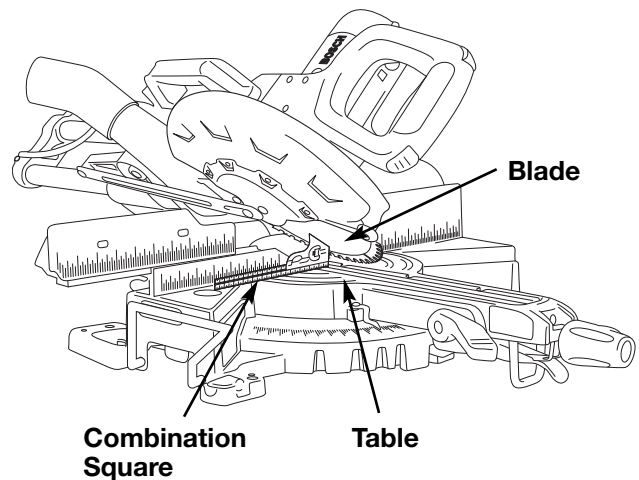

Figure 9. Blade 45° To The Table
5. Loosen bevel lock handle and tilt the head assembly to 45° bevel. Check the 45° bevel stop. The bevel indicator should be on the 45° mark, the 45° bevel stop should be in full contact with the 45° bevel stop screw. Place the combination square on the table and press it against the blade. The blade should contact the full length of the combination square (Figure 9).